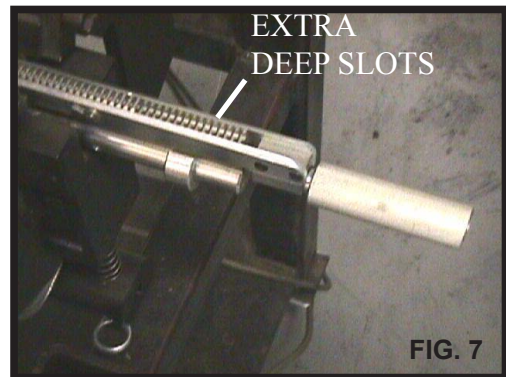

FIG. 7
4. Select the proper comb. Proper comb is determined by the hook size you have chosen for installation. Combs are available in widths from 24" – 60". All combs have the ability to lace belts wider than the combs by using the continuous lacing feature. (See Fig. 7). Refer to the chart below to select the proper comb.